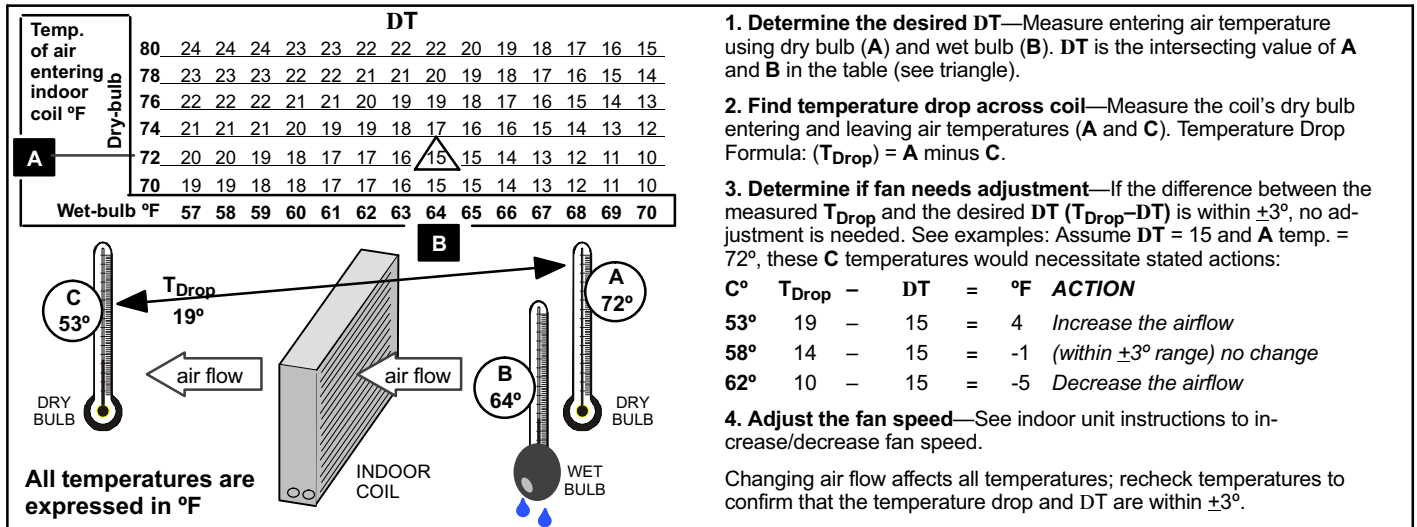

Figure 32. Checking Indoor Airflow over Evaporator Coil using Delta-T Chart
Check indoor airflow using the Delta-T (DT) process using the illustration in figure 32.